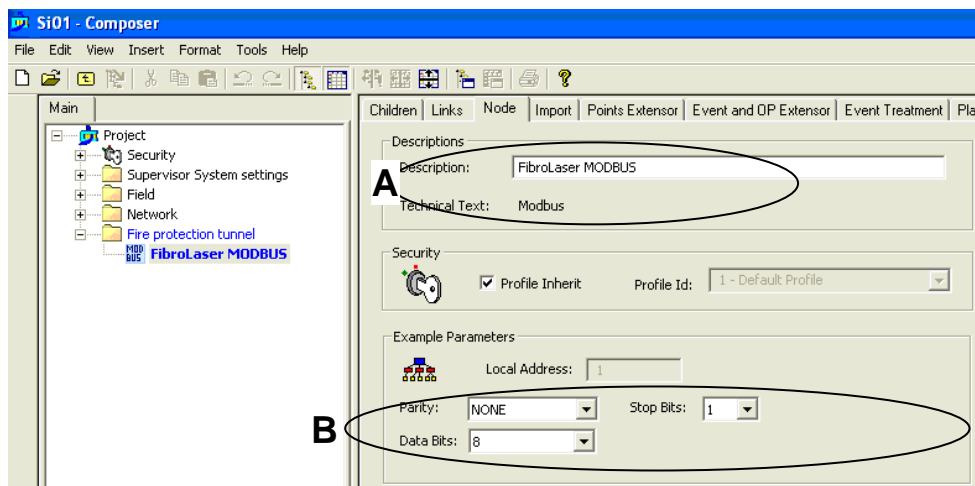

Fig. 22 Setting Modbus mode (subtype) and the Unit Address
2. Click the Node tab (see Fig. 22).